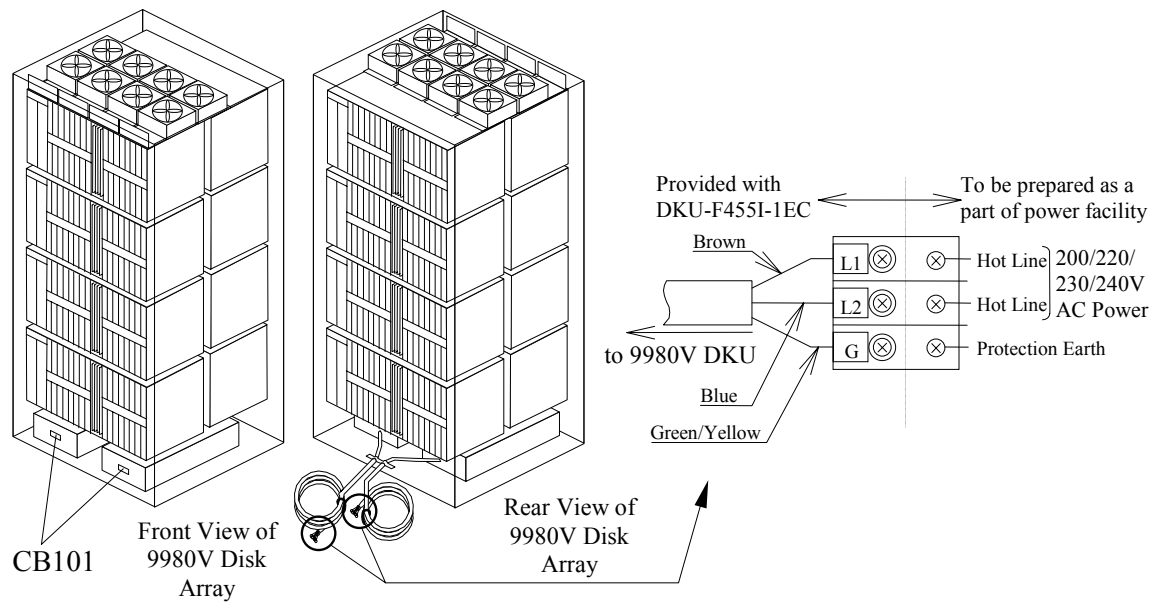

Figure 5.24 Power Plugs for a Single-Phase 9980V Disk Array Unit (Europe)
- Figure 5.24 illustrates the power plugs for a single-phase 9980V disk array unit (Europe).